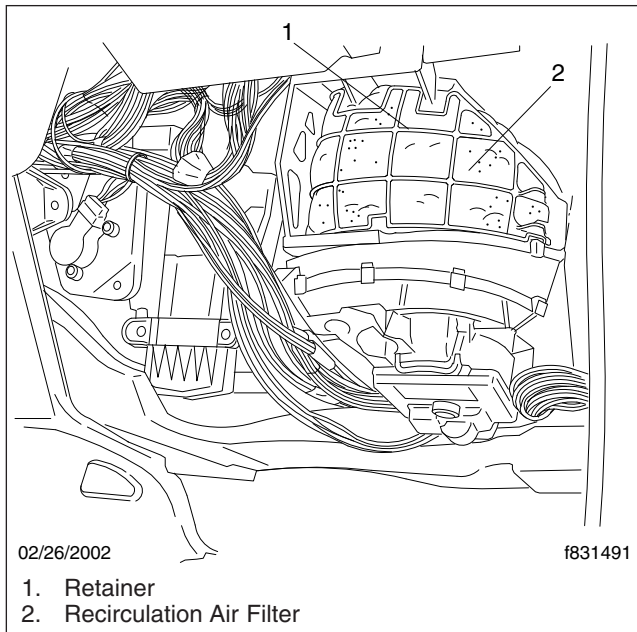

Fig. 4, Cab Recirculation Air Filter
3. Remove the retainer that holds the recirculation air filter in place. See **Fig. 4**.